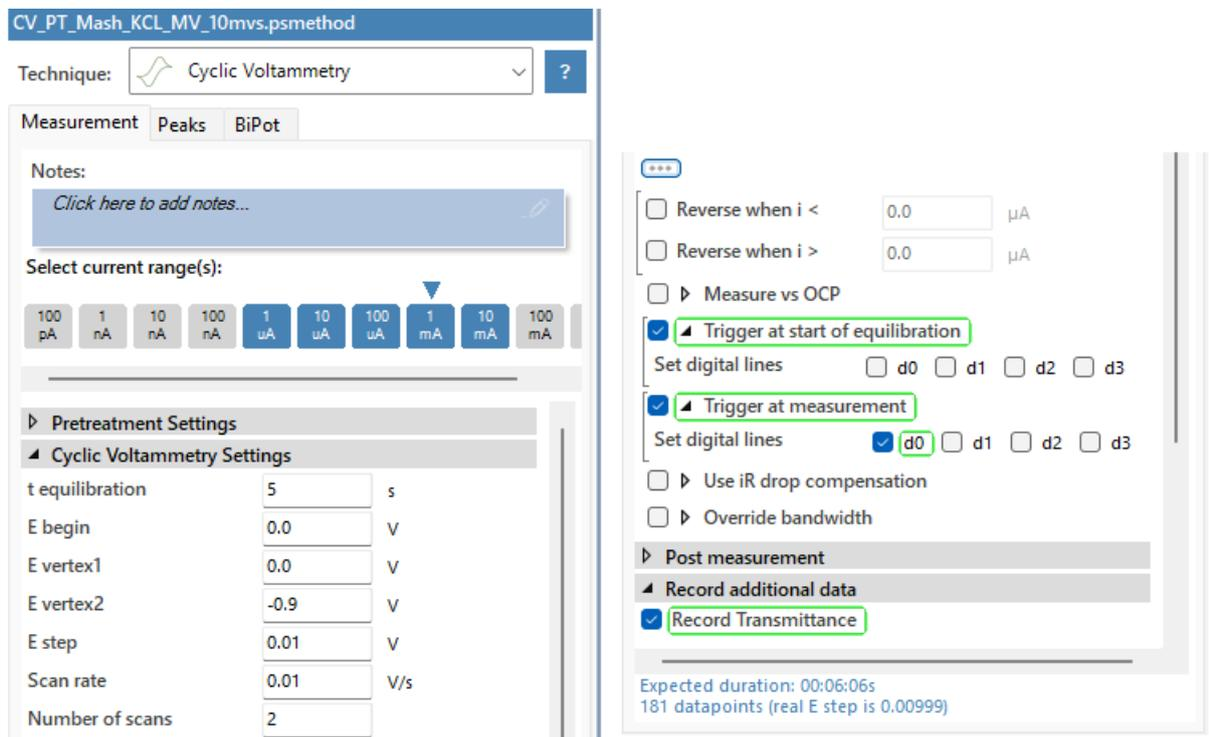

Figure 8: PSTRace CV settings for spectroelectrochemical experiments with Methyl Viologen in KCl.
(in the left side of the main window). You can set the parameters according to Figure 8 or load the PSmeth file “CV\_PT\_Mash\_KCL\_MV\_10mvs.psmethod”. You can download an example method file at [Palmsens.com/spectro](http://Palmsens.com/spectro) and load it by choosing in the top menu *Method – Load*. To record the Aux. input during the measurement, check in the method editor the box *Record Aux. input* in the segment *Record additional data*. If you changed the name in the *Auxiliary input options* that name will replace *Aux. input*, e.g. *Transmittance* (see Figure 8).
To ensure the digital lines are all low when we start, click on the ...-button in the method editor and check *Trigger at start of equilibration* and none of the digital line checkboxes. To send the trigger at the start of the CV check *Trigger at measurement* as well as *d0* (see Figure 8). This presetting is necessary because the EmStat4X and Nexus instruments maintain the last digital output signal after a measurement is completed. While the spectrometer requires a transition from OFF (0) to ON (1) to initiate spectrum acquisition. To ensure this signal change occurs, an intermediate step was included with the digital *d0* output set to position 0 before proceeding with the main measurement.